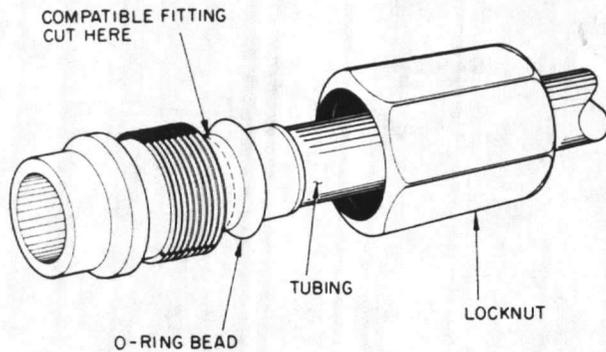

Fig. 15 — Repair of Mechanical Connection
2. Back locknut off Compatible Fitting onto tube at indoor coil as in Fig. 15.